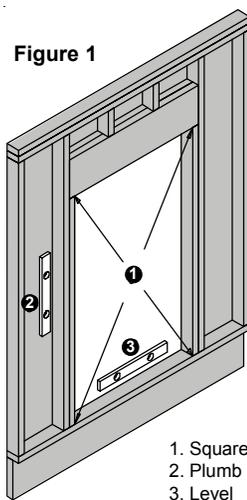

Figure 1
**Measuring for square:** Take measurements from bottom left corner to top right corner and bottom right corner to top left corner and compare. If measurements are equal the R.O. is square. If measurements are not equal, R.O. is out of square and it is then the responsibility of the installer to remedy this problem prior to installation (fig.1).
**Checking for Plumb:** Place a level on both sides of the R.O. making sure the vertical measurement of each side is true. If R.O. is not plumb, it is then the responsibility of the installer to remedy this problem prior to installation (fig.1).
**Checking Level:** Place a level on the sill of the R.O. making sure the horizontal measurement on the sill is level. If opening is not level, the use of rot proof shims may be used to level the sill. Be sure to support the entire sill to prevent the sill from sagging (fig.1).